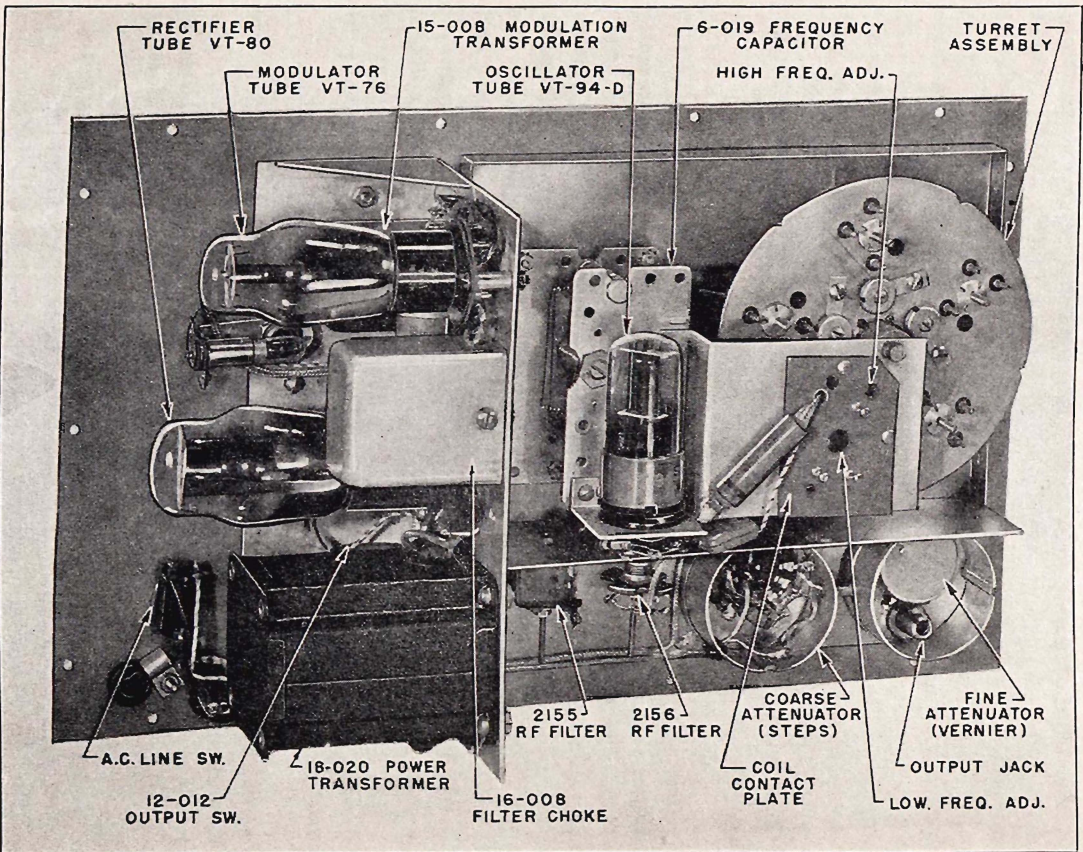

Fig. 6 — SIGNAL GENERATOR I-72 (\*), REAR VIEW OF CHASSIS, WITH OSCILLATOR AND ATTENUATOR COVERS REMOVED
**11. Attenuator.**—The attenuator is built in two sections in the round shielded compartments at the lower right of the chassis as shown in Figure 6. The first section R-5, R-6, R-7 and R-8 (fig. 4) consists of four steps, each giving increases of approximately 10 to 1 per step as the control is advanced from 1 to 4. The second section R-9 is a vernier to permit closer adjustment of the output levels between adjustment obtainable with the STEPS control. Maximum output is obtainable when the STEPS control is set at 4 and the VERNIER control is set at the extreme right or clockwise position at (10). When using the 400-cycle oscillator output through the attenuator, a maximum of approximately 1.2 volts is available. With the step attenuator in position 1, audio output will be zero.
**15. Tube Replacement.**—Either Tube VT-80 or Tube VT-76 may be replaced without affecting the calibration of the instrument. † Ordinarily, this is also true of Tube VT-94-D, although the frequency calibration should be checked after changing this tube before further use is attempted. If the calibration of the signal generator is thrown off by the replacement of Tube VT-94-D, normal operation of the signal generator for a period of 24 to 48 hours will age the tube and usually restore the instrument to calibration. Calibration change will be most noticeable at the high-frequency end of band 5. Small changes in calibration can be corrected by means of the trimmer capacitor adjacent to each coil and accessible through the upper adjustment port in the oscillator shield-can (See figure 6.).
**16. Recalibration.**—Do not attempt recalibration under any circumstances unless frequency standards of known accuracy are available. Do not conclude that the generator frequency is off unless it has been checked against more than one standard, as it is possible that the standard may be at fault. Only qualified personnel should attempt to recalibrate this instrument. Attention is directed to the adjustable iron-core in each of the 5 coils for the control of its inductance and to the five trimmer capacitors on the coil turret assembly for control of the minimum capacities of the individual bands. Adjustment should be made preferable through the two access ports provided in the rear of the oscillator shield can, with the shield in place (See figure 6.). Although the two adjustments for each band are not com-